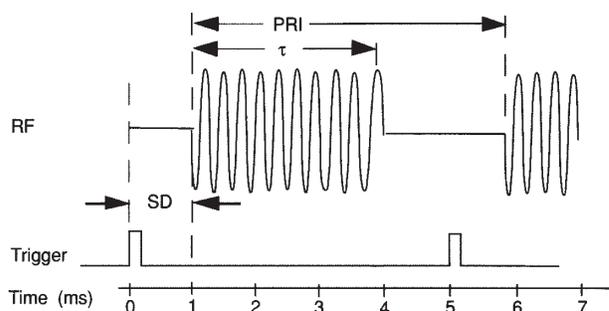

Figure 6-1 Time-domain parameters that you need to know in order to set gate controls properly
- Signal delay (SD), which is the length of time occurring between the trigger event and when the signal is present and stable. If your trigger occurs at the same time as the signal, SD will be zero. See Figure 6-1.
To ensure that the gate is on at least once during each of the 401 digital trace points on the spectrum analyzer, you may need to decrease the sweep rate of the analyzer. In Figure 6-1, the PRI is 5 ms, so you should set the sweep time to at least $401 \times 5 \text{ ms} = 2005 \text{ ms}$, or 2.005 s. (The next higher setting is 2.1 s). If the sweep time is too fast, some trace points may show values of zero or other incorrectly low readings. If the signal has an intermittent or variable repetition interval, use the longest PRI for calculating sweep time. If the trace seems incomplete or erratic, try a longer sweep time.